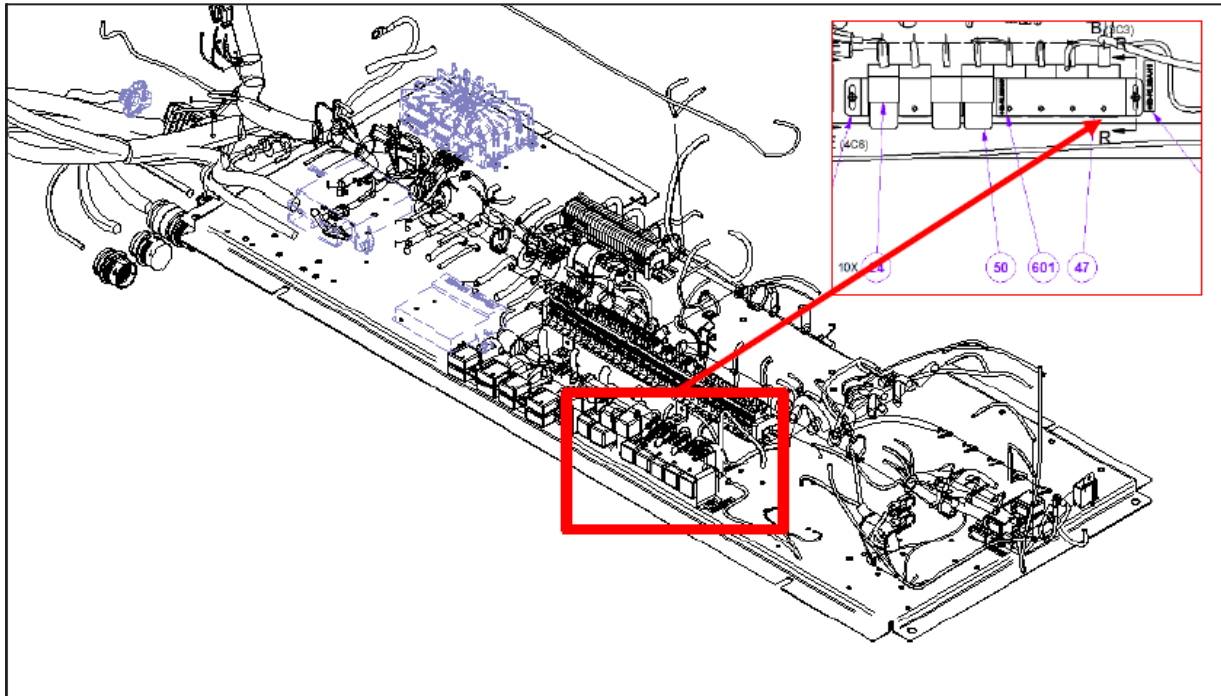

Figure 3 - Interior Back Panel
- 1.5. Locate the 12V relay at position +IB RL99AH1 inside the interior back panel (see figure 3).